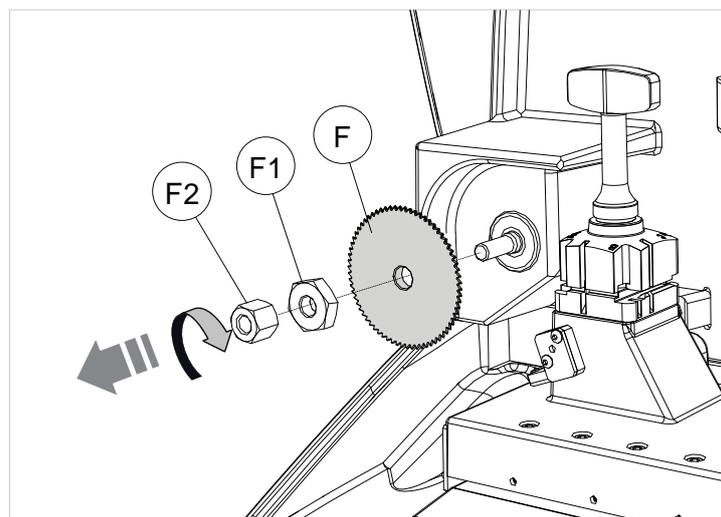

Fig. 43
- 5) Remove the nut (F2), hex washer (F1) and cutter (F) (Fig. 43).
- 7) Fit the new cutter (F), paying attention to the direction of rotation.